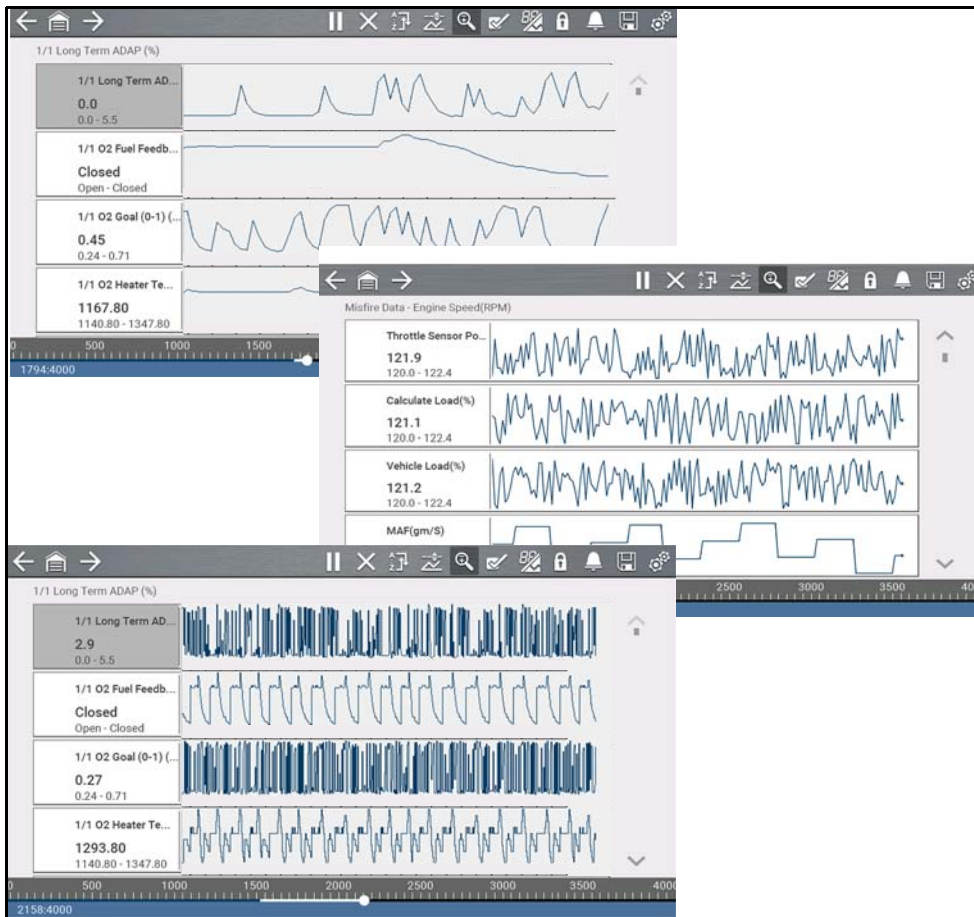

Figure 4-26
**Examples** *Figure 4-26*: Top (+4X), Middle (1X), Bottom (Zoom Out)